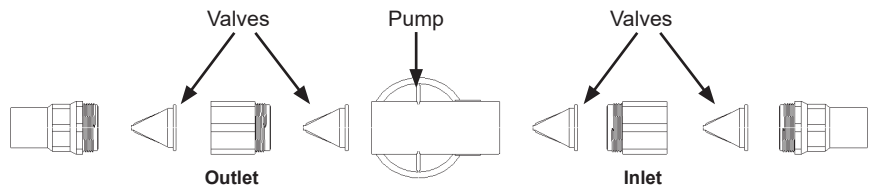

Fig. 2 Pump Head
- 3. Connect the inlet and outlet hose to the pump ensuring the flow direction is correct (Fig 2). Two stainless steel hose clamps **must** be used at each connection.
- 3. When refitting ensure the valves are assembled in the correct orientation (Fig 2).